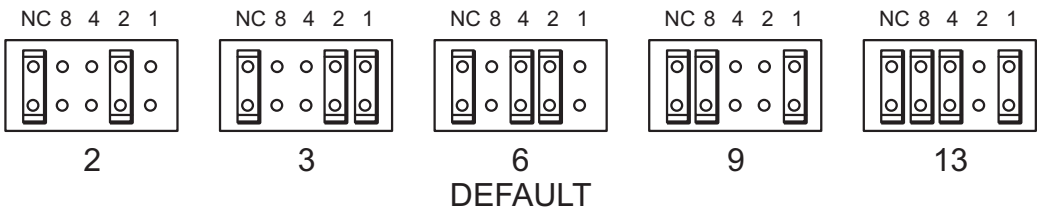

Figure 3a: checking the SCSI ID
The SCSI ID is set using jumpers on a set of pins at the rear of the drive. Use tweezers or small pliers to move the jumpers to the pattern corresponding to the ID you want, see Figure 3a. If you do not install any jumpers, the firmware makes the drive default to SCSI ID 6. If you do install jumpers, the left-hand jumper (NC) should always be set.